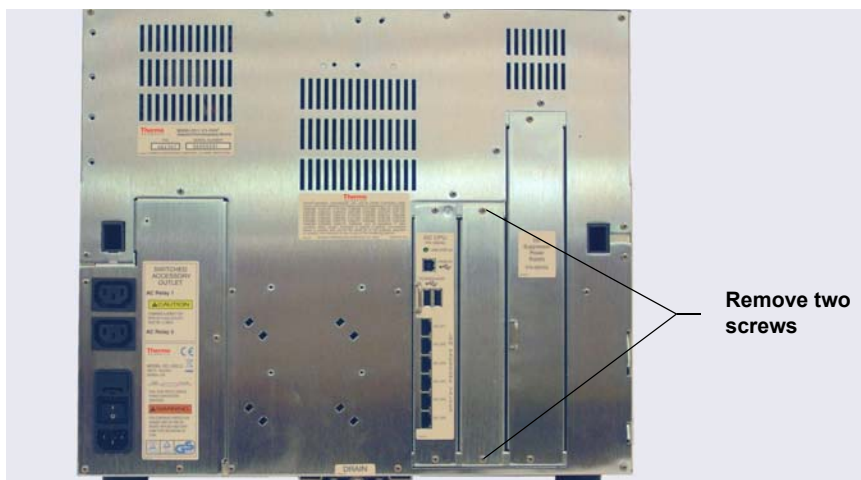

Figure 9-38. DC Rear Panel: Removing the I/O Option Cover Plate
4. On the DC rear panel, remove the two screws that attach the I/O option cover plate or the existing I/O option board to the rear panel (see Figure 9-38). Save the screws.